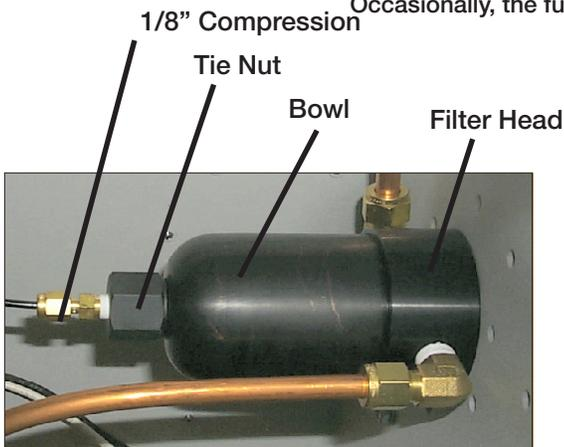

Figure 5 - To change the filter element, use a 7/16" wrench to remove the compression nut. Use a 1" wrench to unscrew the tie nut. Pull off the bowl.
- 5 To change the cartridge in the final filter, unscrew the 1/8" compression nut from the tie nut using a 7/16" wrench. Unscrew the tie nut using a 1" wrench. Pull off the bowl, then pull off the element retainer. Replace the filter, put the element retainer back on. Before replacing the bowl, make sure the o-ring is seated in the groove of the head. Screw the tie nut back on, followed by the compression nut (Figures 5 and 6).